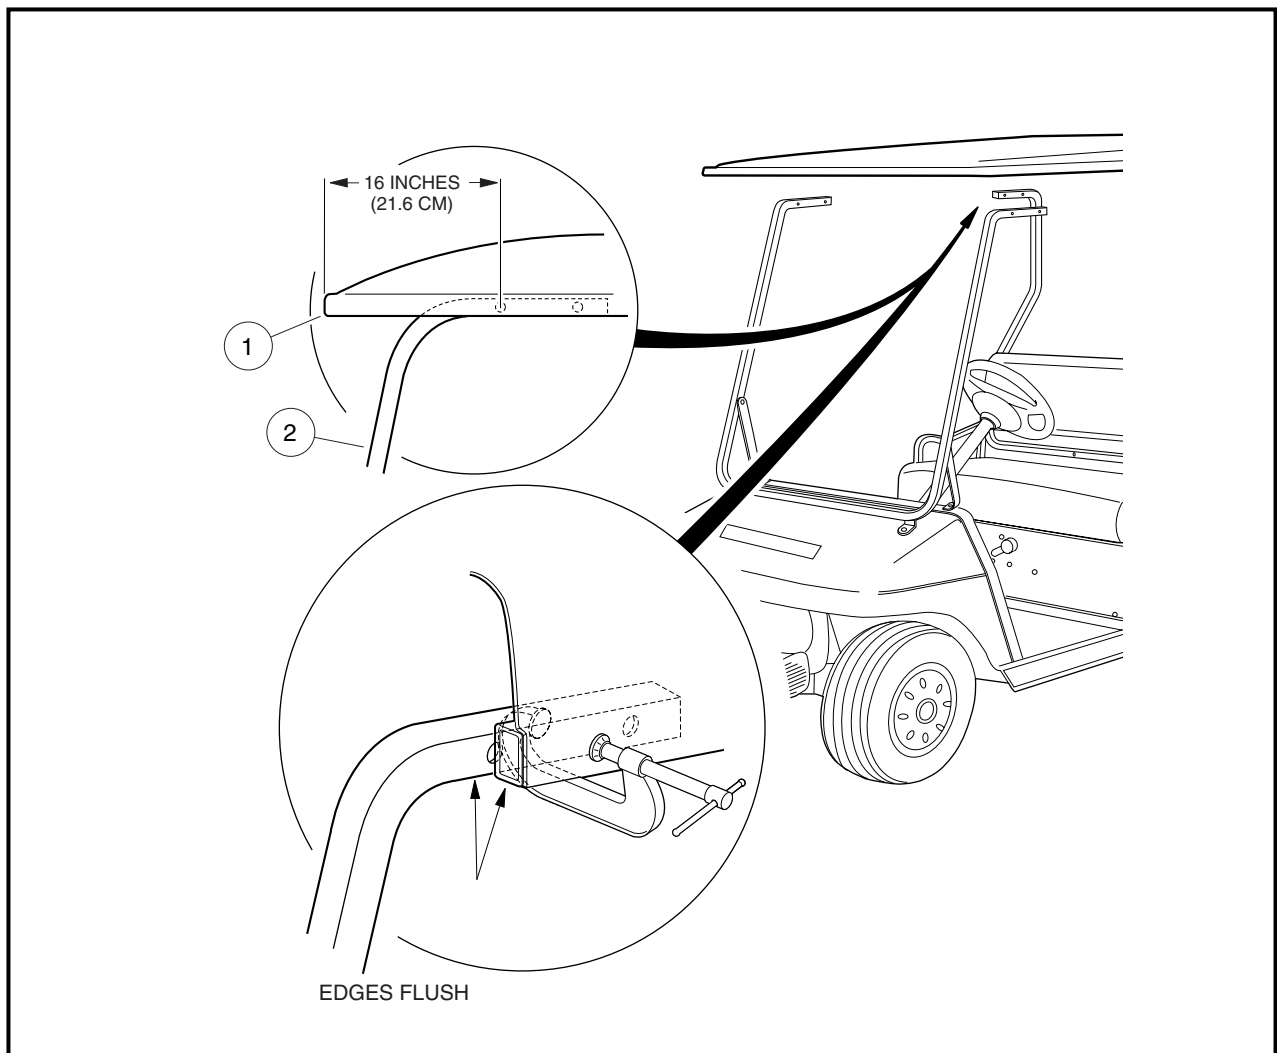

Figure 6 Locate and Drill Holes in Canopy
- 4.2. Position the front edge of the canopy (1) 16 inches (40.6 cm) in front of the forward-most hole in the windshield frame (2) and with the bottom edges of the windshield frame and rear brace flush with the bottom edge of the canopy frame as shown (**Figure 6**)